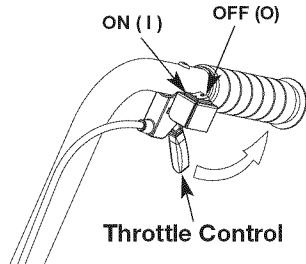

Fig. 8
NOTE: There is no need to turn the unit on. The On/Off Control is in the **ON (I)** position at all times (Fig. 8).
2. Press and hold the On/Off Control in the **OFF (O)** position until the unit comes to a complete stop. (Fig. 8)